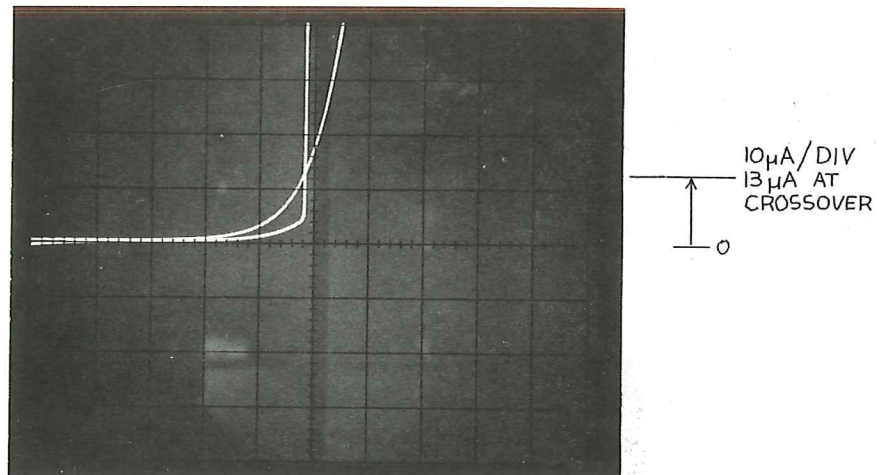

Figure 22. Typical display on Norton amplifier mirror current.
The point at which -Input I and +Input I cross is the mirror current Input VBE match (see note in mirror current specification). See Fig. 22 for typical display.
- CHECK-mirror current at Input VBE match (crossover point in Fig. 22).